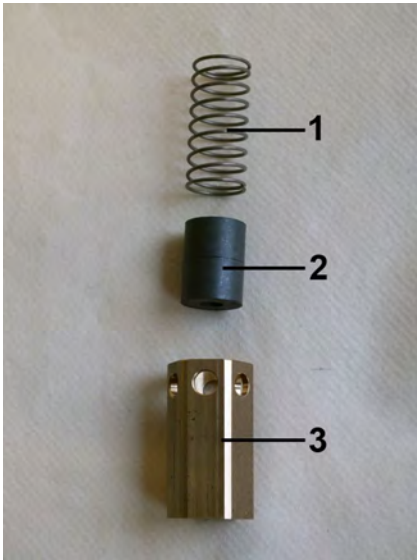

Fig. 32: Inner parts
- 4.** ➤ Insert spring (Fig. 32/1) with magnets (Fig. 32/2) into the float (Fig. 32/3), ensuring proper magnetic pole orientation (north pole toward device outlet).